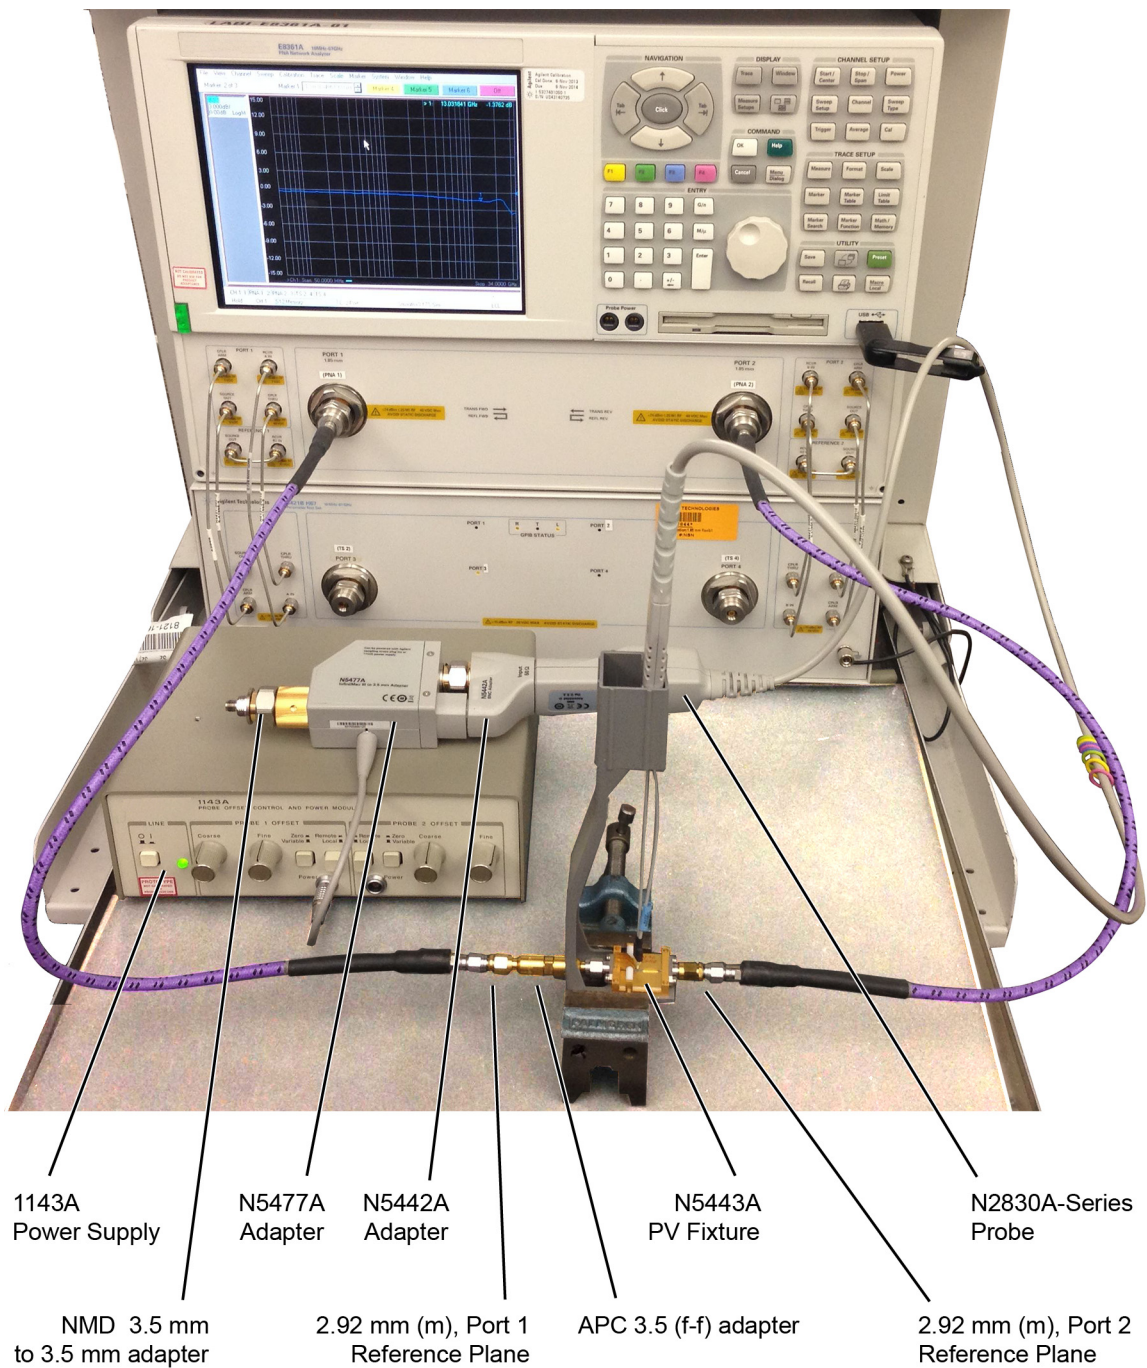

Figure 94 Test Setup for Measuring V_{in} of Probe
- 3 Connect the APC 3.5 (f-f) adapter, provided with the N5443A PV fixture, to the N5443A, as shown in Figure 94 on page 120. Use a small bench vise to steady the N5443A PV fixture on the test surface.